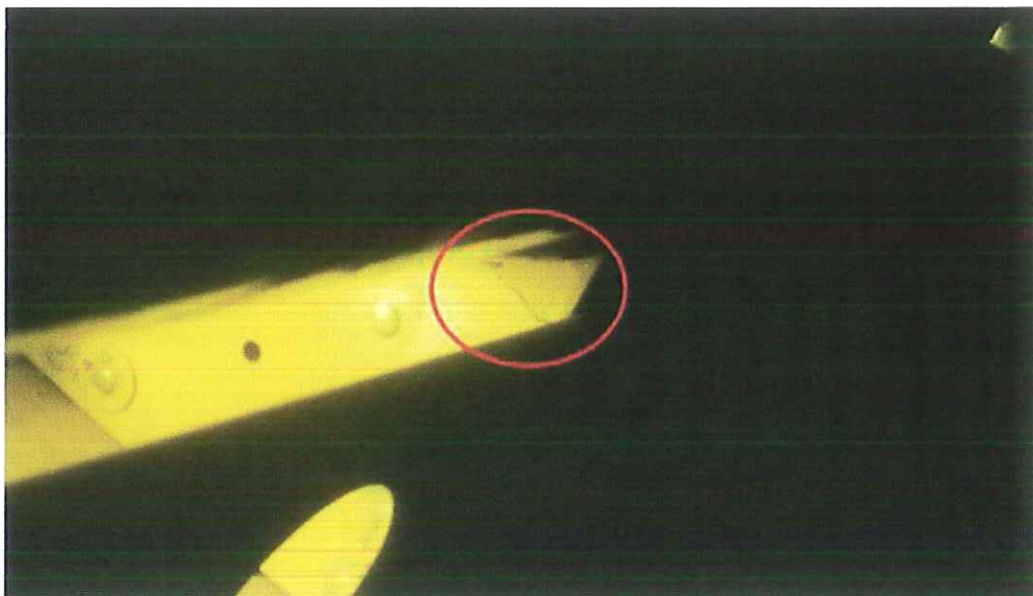

Figure 2 – Crack Location
3. Fabricate an inner doubler from .032" thick, 301 ¼ hard stainless steel sheet approximately as shown in Figure 5. Corner radii of the doublers shall be 0.190" minimum. Temporarily clamp the doublers into position and check for fit. If satisfied with the fit, back – drill the holes for the legacy rivets (shown in Figure 2) into the doublers. Strive to maintain 2D edge distance for the fasteners in the doublers, but the edge distance can be as low as 1.5D if necessary. Deburr the fastener holes and the edges of the doublers. Vacuum the area to remove any loose particles.